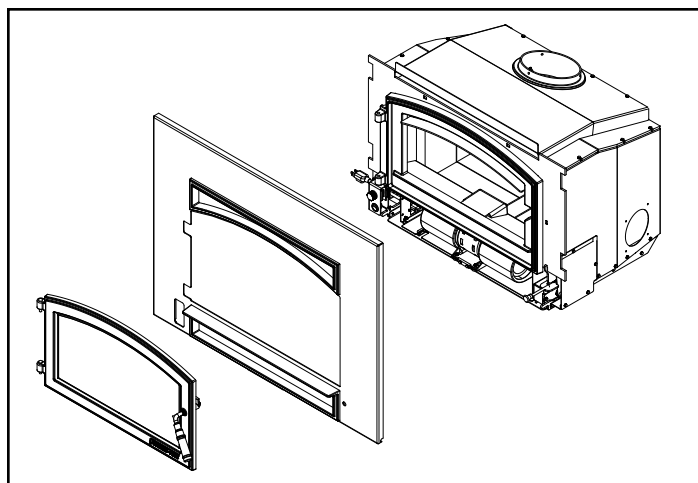

Figure 20.2
2. Remove door from front of appliance and set aside laying it onto a protective surface (**Figure 20.2**).
3. Remove face from front of appliance and set aside laying it onto a protective surface (**Figure 20.2**).
8. Reinstall face to front of appliance (**Figure 20.2** on page 20).
9. Reinstall the door to the face of the appliance (**Figure 20.2** on page 20).